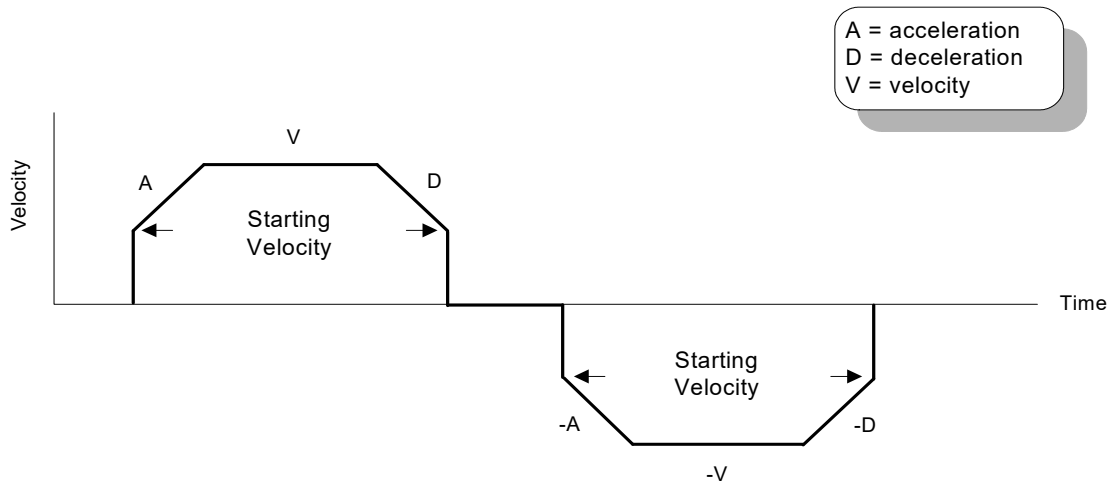

Figure 4-2:
Figure 4-1 illustrates a trapezoidal profile with the starting velocity set at the default value of zero (0). When whole-stepping a step motor, it is sometimes desirable to define a non-zero starting velocity from which the motor will instantaneously begin motion. This is to avoid passing through the resonant frequency of a step motor. In the deceleration phase of the profile, rather than continuously decelerate to a velocity of zero (0), the velocity will transition from the start velocity to zero (0) velocity with no deceleration phase in between. Figure 4-2 shows a typical trapezoidal profile with non-zero starting velocity.